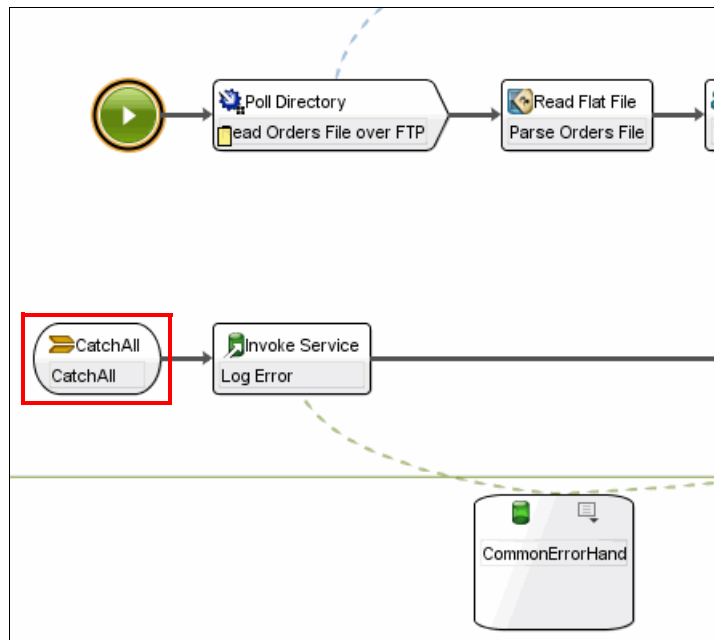

Figure 12-83 Catch All block
5. A general purpose Catch All activity is added for the activities that are not handled by the Try activity. Refer to Figure 12-83.